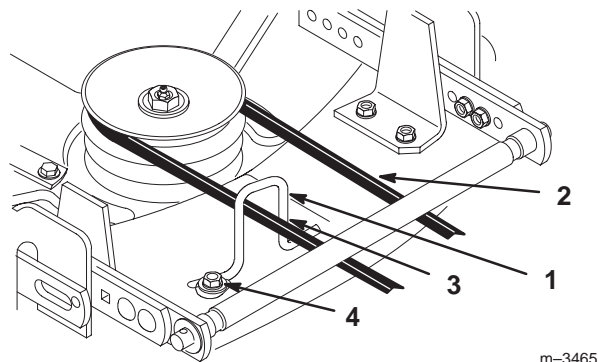

Figure 14
9. Loosen the belt guide bolt (Fig. 14).
10. Adjust the belt guide so that it just touches the belt on the inside arm of the guide (toward the center of the mower) (Fig. 14).